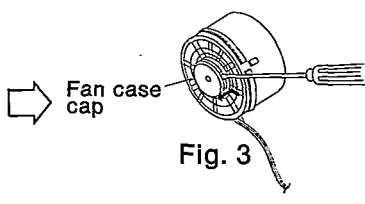

Fig. 3
3. Remove the motor cover by used ⊖ screwdriver. (Refer to Fig. 3)